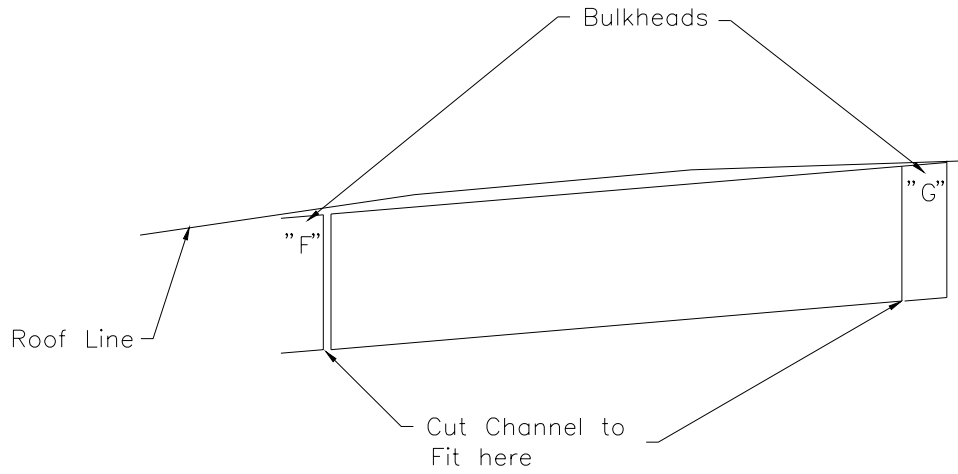

Figure 20.6.1
2) Cut two pieces of ST-31 channel to fit between bulkhead "F" and "G" along the roof line. Figure 20.6.1.